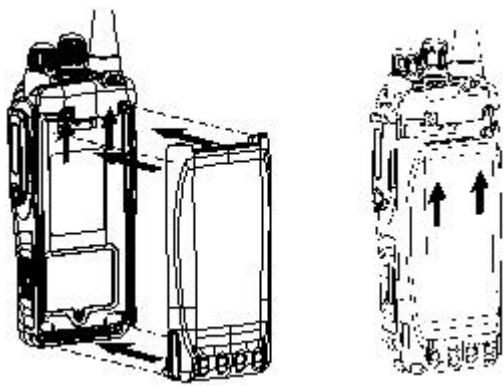

Figure 1
3. The battery latch at the bottom locks the battery. See figure 1.